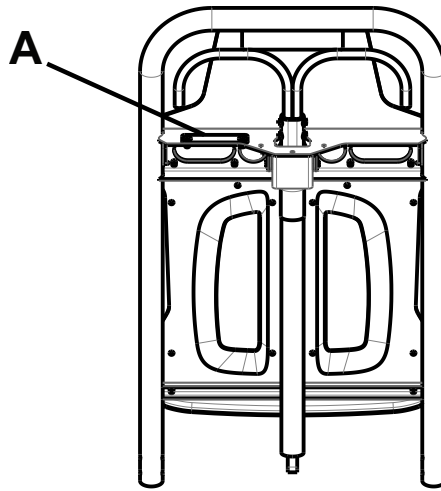

Figure 3 – Power-PRO 2 serial number location
See below for the cot (A) serial number location (Figure 3).